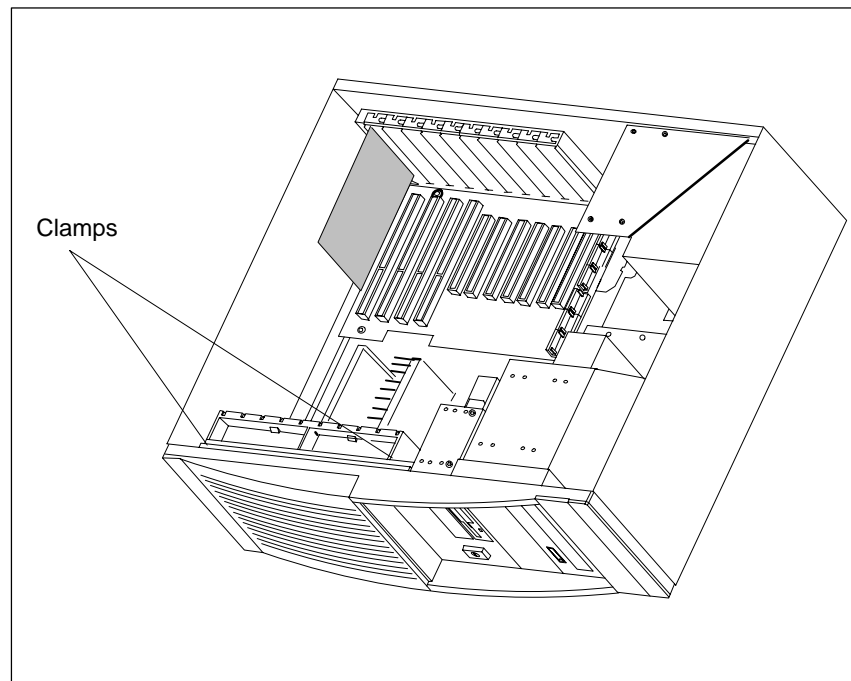

Figure 1-6 Removing the Fan Cage
- Provided expansion modules are not installed or have previously been removed, the fan cage can be taken out. First remove the two clamps of the fan cage (see Figure 1-6) then push the top of the two side sections outward and lift the fan cage up.